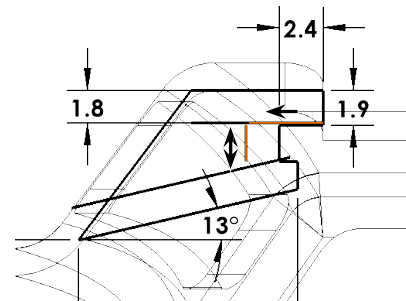

Fig. 107
Step 15. Extend vertical offset both direction and horizontal offset to the left, **Fig. 107**.